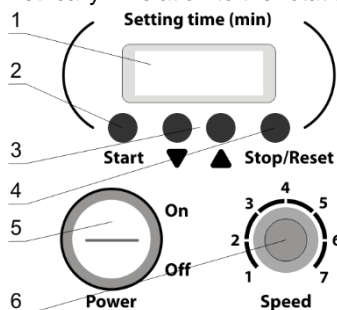

Figure 1. Bio RS-24
- 5.2.1 Connect the external power supply to the mains. Move the **Power** switch (fig. 1/5) to position **on**.
- 5.2.3 Set the rotation speed using the **Speed** knob (fig. 1/6).
- 5.2.4 Set the operation time using the ▼ and ▲ keys (fig. 1/3). Set time is displayed in hours and minutes.
- 5.2.5 Press the **Start** key (fig. 1/2) to start the program.
- 5.2.6 The platform motion begins. Operation timer on the display (fig. 1/1) starts the count-down. Intervals less than 1 hour are displayed in minutes and seconds, intervals more than 1 hour – in hours and minutes.
- 5.2.7 If the operation timer is not set and display shows 0:00, pressing the **Start** key causes continuous operation of the rotator until the **Stop/Reset** key (fig. 1/4) is pressed.